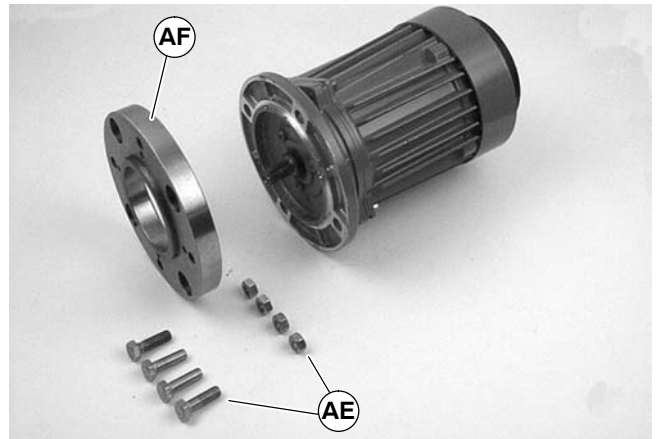

Figure 26
4. Remove four (4) screws and nuts (AE of Figure 26). Remove adapter flange (AF).